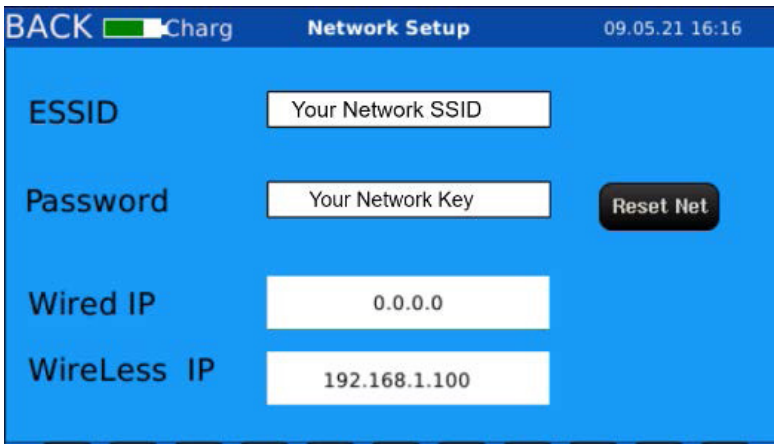

Figure 59. Enter wireless network credentials
- 2. Select the **ESSID field** and enter the identifying name of your wireless network (Figure 59).
- 3. Select the **Password field** and enter the wireless network password (Figure 59).